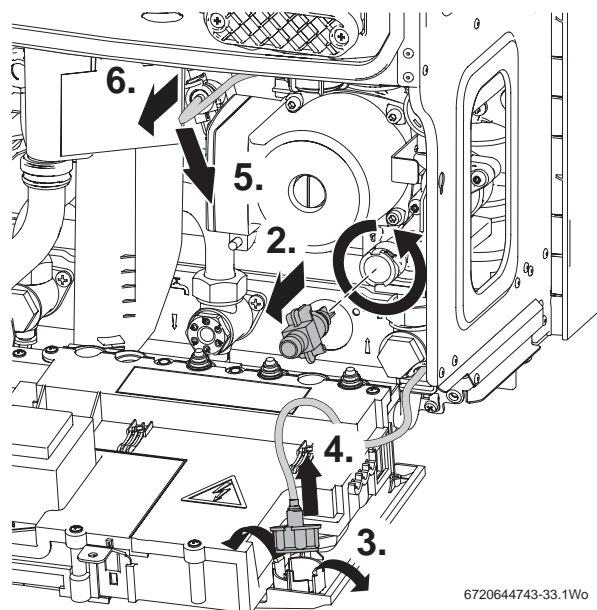

Fig. 114
- ▶ Refer to figure 114
- 3. Prise the lugs apart (3) securing the pressure gauge to the fascia.
- 4. Remove the gauge (4) taking care not to damage or kink the capillary.